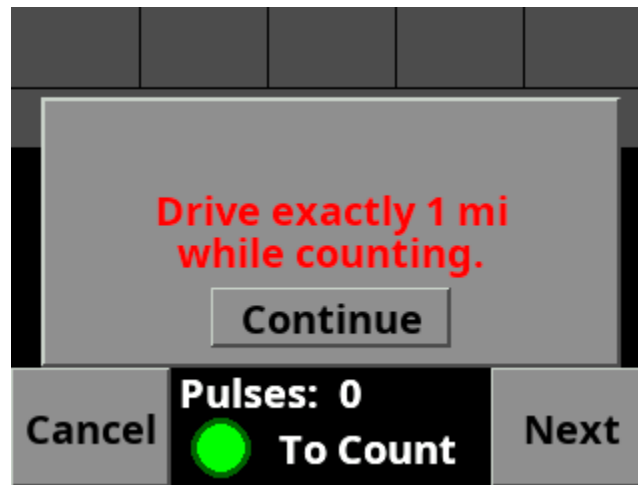

Figure 2: Cal By Distance Screen
STEP 2: Navigate to the Calibration → Speed → Cal By Distance setting. Figure 2 will appear, as shown below.